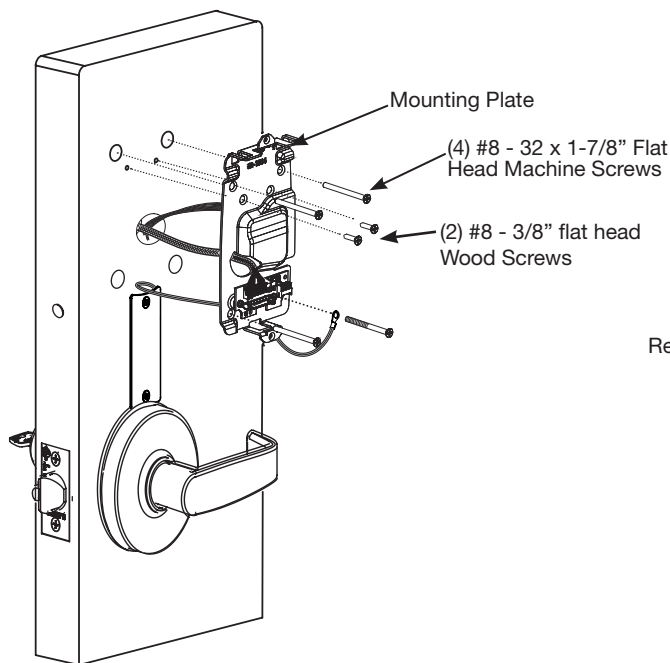

Fig. 11a
- On the inside of the door, align mounting plate with indicated holes (Fig. 11a).
- Feed reader cable through central opening in mounting plate (Fig. 11a).
- Lockbody cable feeds from bottom (Fig. 11a and 11b).
- Make sure they are positioned upright (Fig. 11a).
- Insert other three #8-32 x 1-7/8" flat head machine screws and tighten, fastening the outside escutcheon to the door (Fig. 11a).